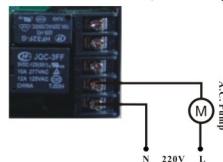
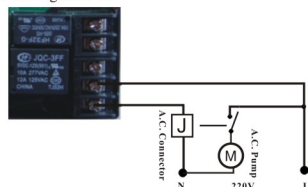

Figure 3-7 Wiring of Booster Pump on Inlet
Figure 3-8 Wiring of Booster Pump on Inlet
**Instruction:** If inlet water pressure is less than 0.15 MPa, which makes rinse drawing difficult, a booster pump is suggested to be installed on inlet. Control mode is b-01. When system in regeneration cycle, booster pump is open, the wiring refers to Figure 3-7. If the booster pump current is bigger than 5A, system needs to install a contactor, the wiring refers to Figure 3-8.